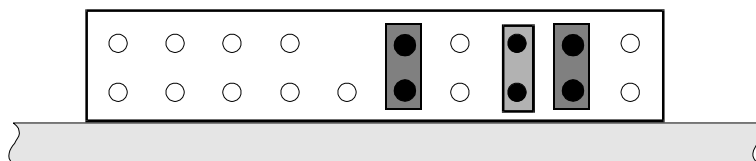

Figure 7-3. Jumper Settings for the Cartridge Tape Drive, SCSI ID = 3
2. Verify that the settings are correct (Figure 7-3).